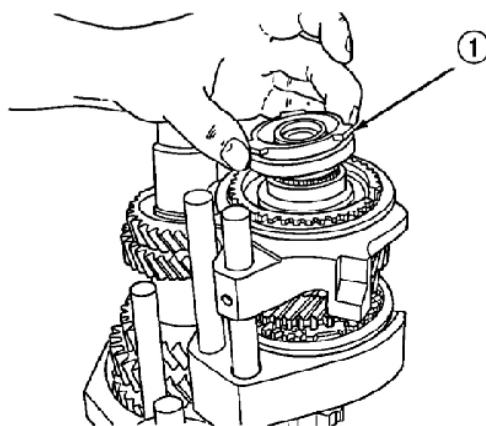

Figure 3-64 Assembly of reverse brake friction cone
(5) Assemble the reverse brake friction cone (Figure 3-64).